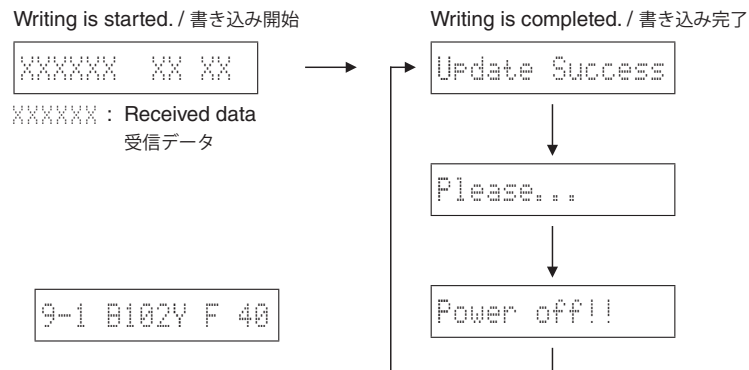

Fig. 3
The disc tray is closed and writing of the firmware is started. (Fig. 3)
5. When writing of the firmware is completed, "Update Success", "Please..." and "Power off!!" are displayed repeatedly. (Fig. 3)
ディスクトレイが閉じ、ファームウェアの書き込みが開始されます。(Fig. 3)
5. ファームウェアの書き込み完了後、"Update Success"、"Please..."、"Power off!!" が繰り返し表示されます。(Fig. 3)